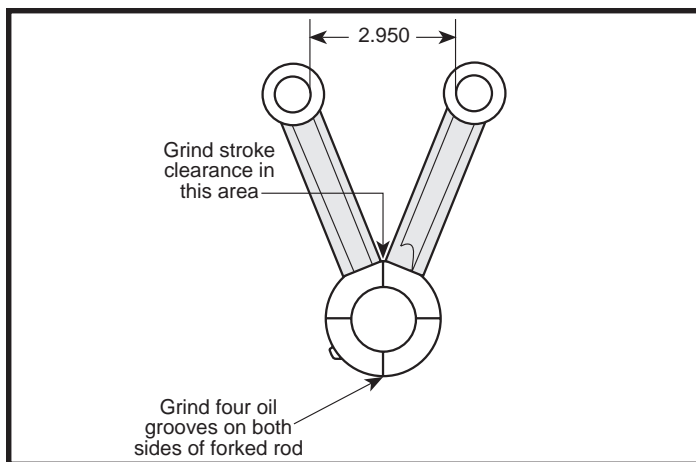

Figure 4
- A. To insure adequate oil on sides of rods and matching thrust surfaces of flywheels, S&S recommends that four grooves be ground on each side of both front and rear connecting rods. **See Figure 4.** Make these grooves .020" to .030" deep and .030" to .040" wide and should be ground 90° from each other. After making grooves, remove all sharp edges and burrs with emery cloth.
- B. With rods assembled, measure distance between rods at closest points in wristpin holes. If measurement exceeds 2.950" as shown in **Figure 4**, grind female rod at points where male rod makes contact to achieve sufficient clearance.